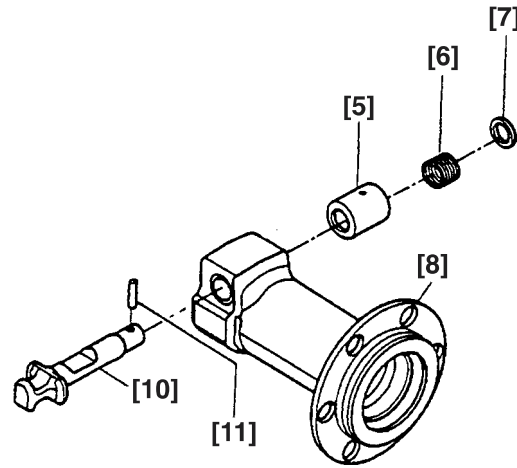

Fig. 8
(6) Reassembly of the Stop Lever [10]:
Prior to reassembly, thoroughly coat the grease (Doubrex 251, Part No. 980757, is recommended) on the sliding portion of the Stop Lever [10]. As illustrated in Fig. 8, place the end surface of the Stop Lever [10] on the flange portion of the Front Cover [8] and compress the Lever Spring [6] by pressing Damper (B) [7] with two slender flat-blade screwdrivers. Then, align the holes of the Stop Lever [10] and the Spring Case [5], and insert the Needle Roller [11].